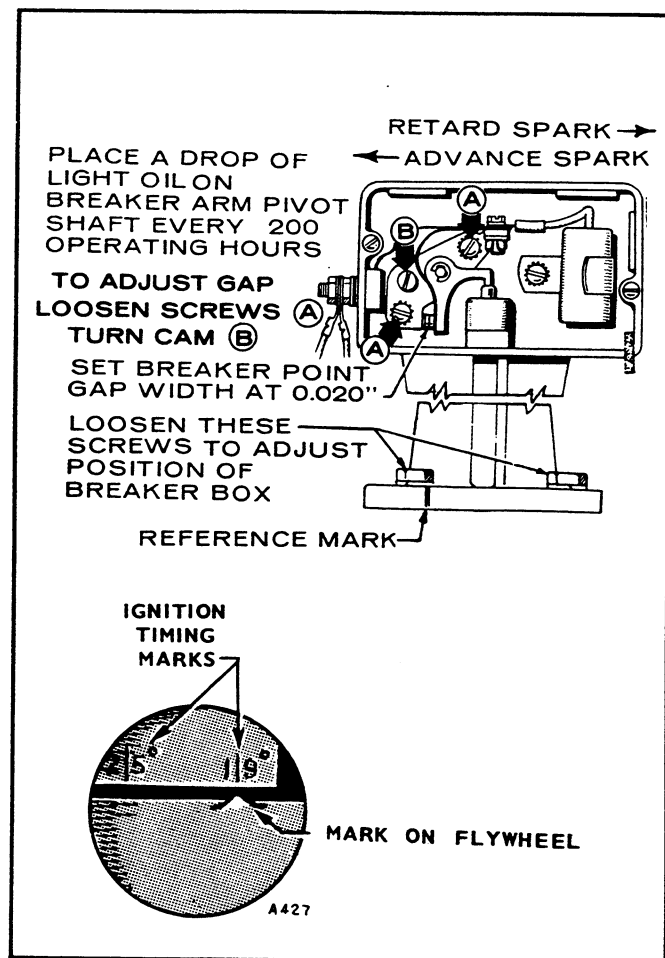

FIGURE 15. BREAKER BOX AND TIMING MARK
3. Turn flywheel in a clockwise direction approximately 1/4 turn after top center (TC).
4. To adjust gap refer to Figure 15. Loosen screws (A) and turn cam (B) until point gap measures .020-inch with a flat thickness gauge. Retighten screws (A) and recheck gap.